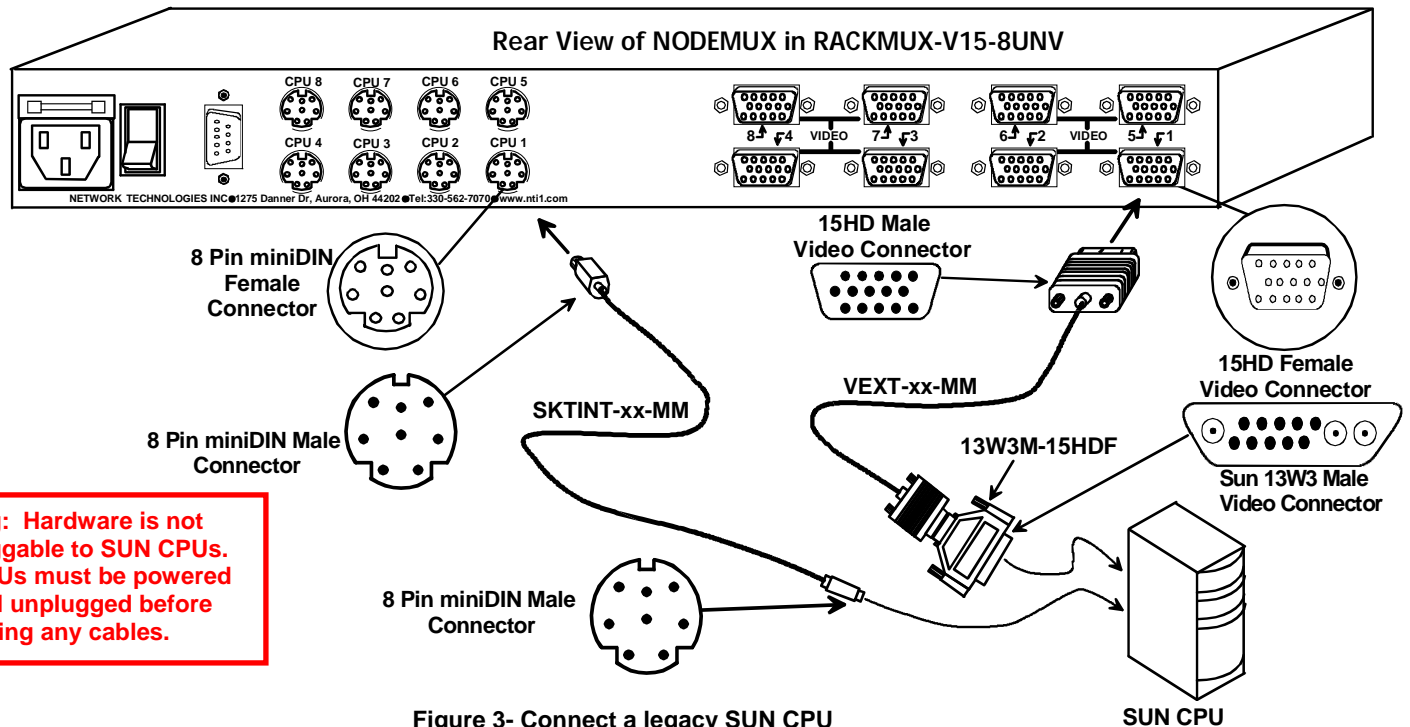

Figure 3- Connect a legacy SUN CPU
•**SUN CPU-** Connect a SUN CPU video port using a VEXT-xx-MM cable with a 13W3M-15HDF adapter between a VIDEOx port on the NODEMUX and the CPU. Connect the SUN CPU keyboard/mouse port using an SKTINT-xx-MM between a CPUx port on the NODEMUX and the CPU. (See Fig. 3.)